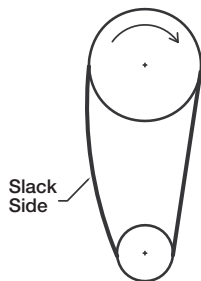

Figure 18a
- 8a. **Sizes 099-161:** Belts should be tensioned just enough to prevent slippage at full load. Belts should have a slight bow on the slack side while running at full load; see *Figure 18a*.